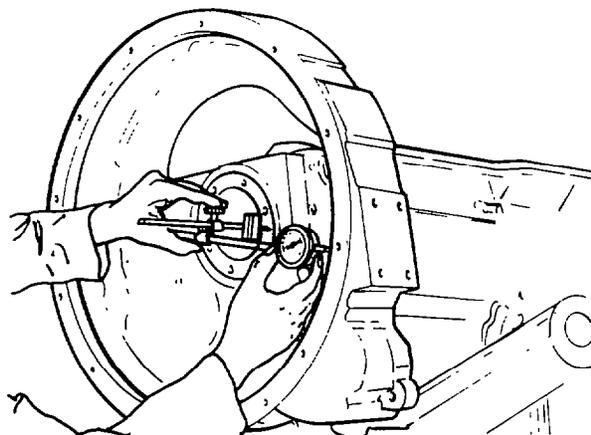

Fig. 74 — Measuring Flywheel Housing Concentricity
c. Install the remaining mounting bolts in the housing and tighten them until they are just snug; mount a dial indicator gauge on the crankshaft and measure the concentricity of the flange internal diameter (see fig. 74).